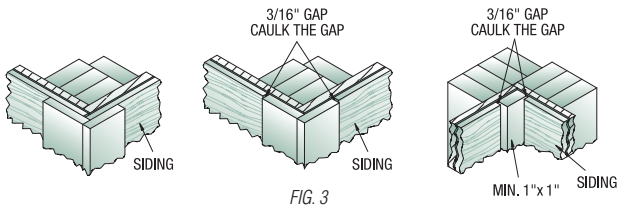

FIG. 3
- Gap the siding at all corners 3/16" and caulk. *See Fig 3.*
- When butting siding to inside or outside corners, use a minimum 4/4" thick (nominal) dry wood material. TruWood Trim is recommended. See Fig 3.